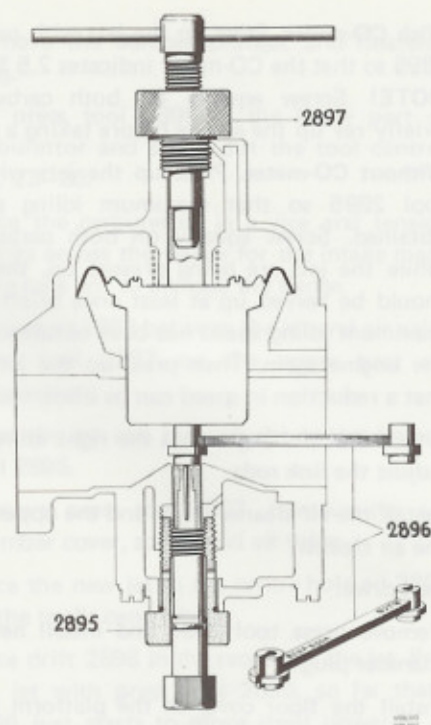

Fig. 23-22. Adjusting the fuel jet
4. Remove the plugs in the floatchambers by inserting a screwdriver between the floatchamber cover and the plug and by levering out the plug. Screw tight the press tool 2895 in the floatchamber covers, Fig. 23-22.